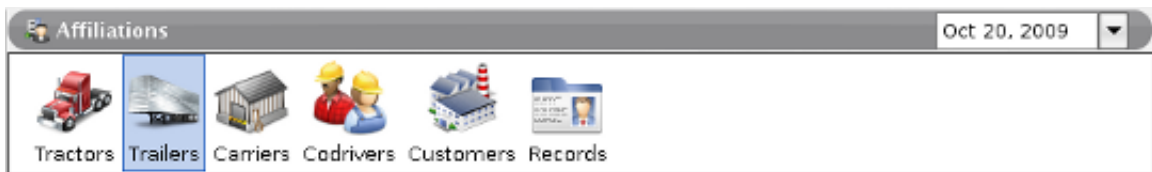

Figure 5.6. Trailers Navigation Item
2. Select the "Trailers" affiliation navigation item see Figure 5.6, "Trailers Navigation Item".